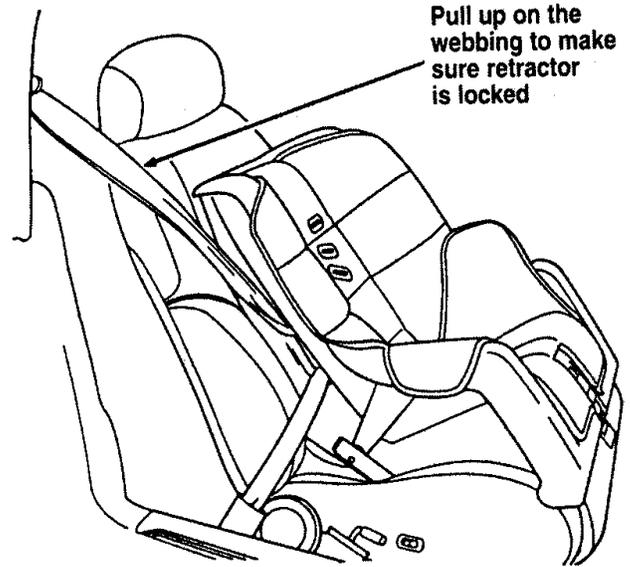

Figure 8
8. Double check that the retractor is in the automatic locking mode. Try to pull more belt out of the retractor. If you cannot, the belt is in the automatic locking mode. See Figure 8.